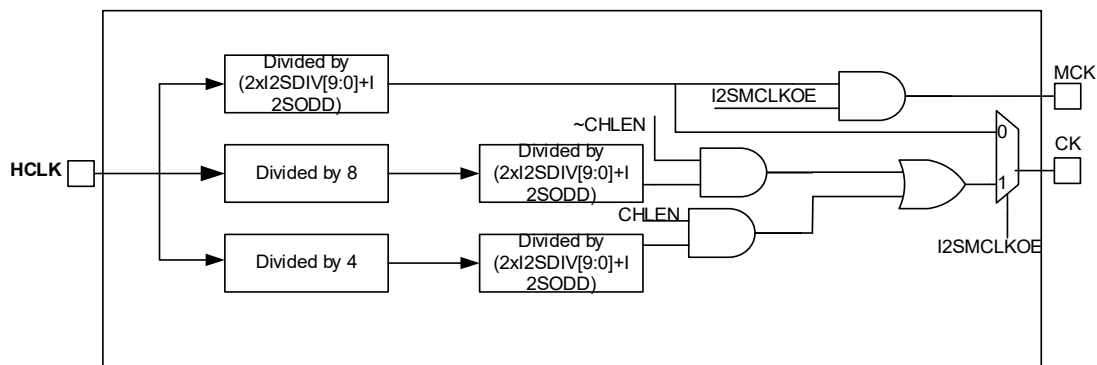

Figure 84. CK & MCK source in master mode
When used as I²S master, the SPI can provide communication clock (CK) and main peripheral clock (MCK) shown in Figure 84. The CK and MCK are generated by HCLK divider, with the prescaler of the MCK determined by I2SDIV and I2SODD. The calculation formula is seen in Figure 84.
The prescaler of the CK depends on whether to provide the main clock for peripherals. To ensure that the main clock is always 256 times larger than the audio sampling frequency, The channel bits should be taken into account. When the main clock is needed, the CK should be divided by 8 (I2SCBN = 0) or 4 (I2SCBN = 1), then divided again by the same prescaler as that of the MCK, that is the final communication clock; When the main clock is not needed, the prescaler of the CK is determined by I2SDIV and I2SODD, shown in Figure 84.